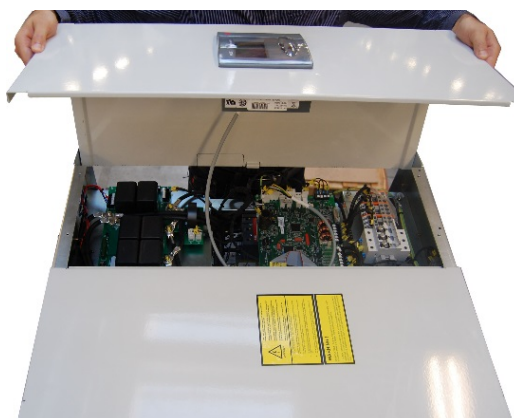

Figure 3: Lifting the right protective cover and putting it aside
- Remove first the right side of the protective cover and put it aside (see Figure 3).